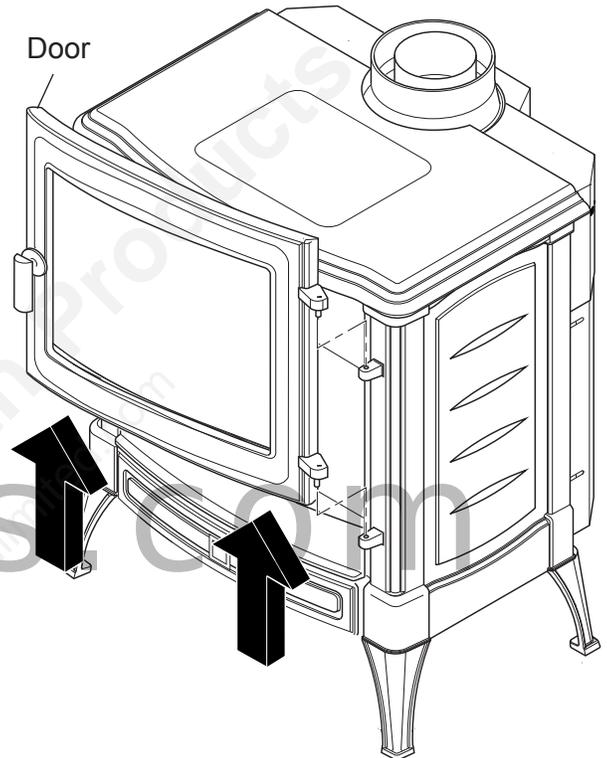

Figure 47 - Removing Door from Hinges
1. Put on gloves. Remove door from hinges by lifting the door up. *See Figure 47.*
7. Slide door back down the hinges. *See Figure 47.*